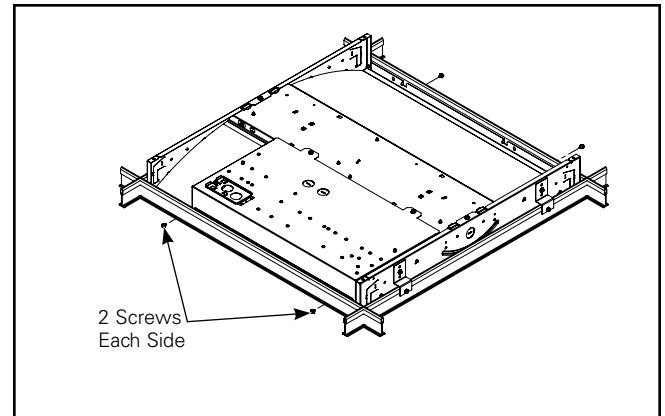
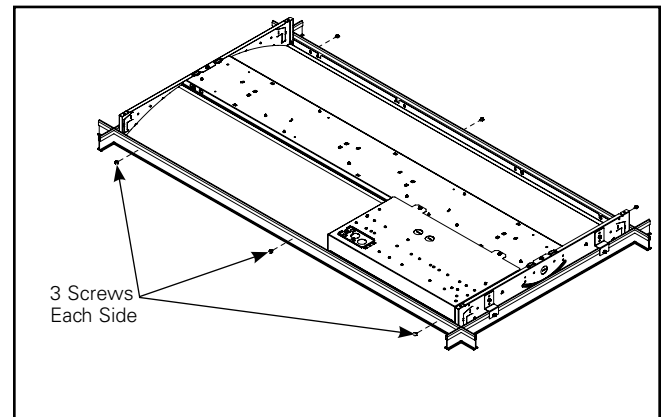

Figure 9.
Figure 10.
6. Secure the other two short wall sides with self-tapping screws to the T-Grid as shown (Figure 9). For a 14FCZ2/24FCZ2, secure with 3 screws on each side (Figures 10 & 11). For a 22FCZ2, secure with 2 screws on each side (Figure 9). Be sure to drill the screws through both the wall of the T-Grid and the wall of the fixture. The fixture wall will be shorter than the T-grid wall.
- Secure the other two short wall sides with self-tapping screws to the Drywall kit as shown (Figure 9). For a 14FCZ2/24FCZ2, secure with 3 screws on each side (Figures 10 & 11). For a 22FCZ2, secure with 2 screws on each side (Figure 9). Be sure to drill the screws through both the wall of the Drywall kit and the wall of the fixture. The fixture wall will be shorter than the Drywall kit wall.